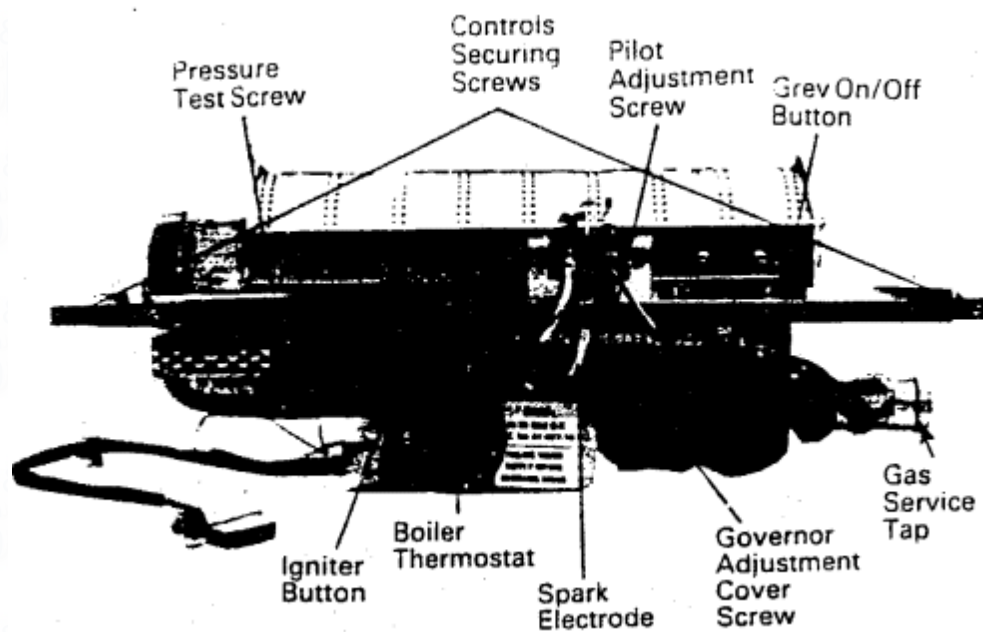

Fig. 15. Unit Control
7. Remove the controls by removing the two controls securing screws and easing the assembly forward carefully until burner and controls clear the combustion box and place the complete unit on one side (Fig. 15).
17. Hold in the grey 'on/off' button on the gas valve (Fig. 15).
20. Remove the pressure test point screw, connect a pressure gauge and operate the burner by turning the thermostat knob to its highest setting (Fig. 15).
(See data label). If necessary remove the cover screw and adjust the appliance governor (Fig. 15). Turn the screw clockwise to increase pressure and alter position of input indicator arrow on data label to suit